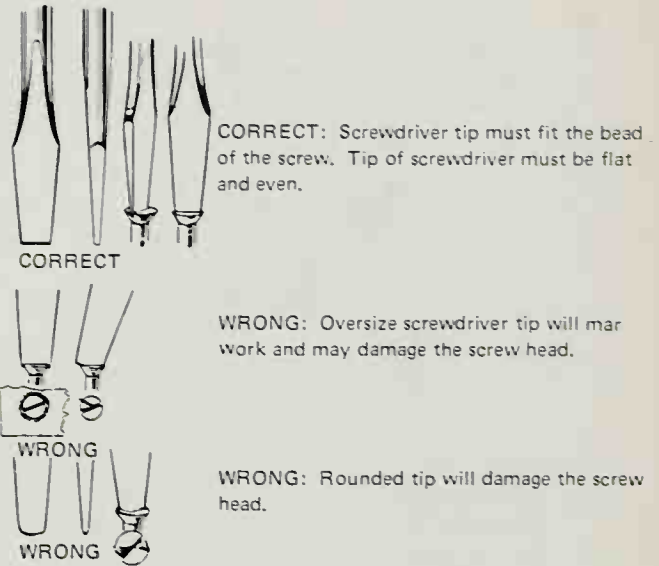

Figure 2-6. Use a correct-size screwdriver for the job. (Stanley Works)
2. When using a screwdriver to tighten or loosen a screw, make sure that the blade of the screwdriver fits snugly in the screwhead slot. A blade that is too small will twist, and consequently damage and distort, the screwhead slot. A screwdriver of the wrong size can slip out and cut you. The top drawing of Figure 2-6 shows the use of the proper screwdriver tip. In the center drawing, the screwdriver tip is too wide and will scar the area around the screwhead; if the screwdriver is not held straight up, the blade tip will slip out of the screw slot and cause damage. The bottom drawing shows what will happen when a rounded tip is used.